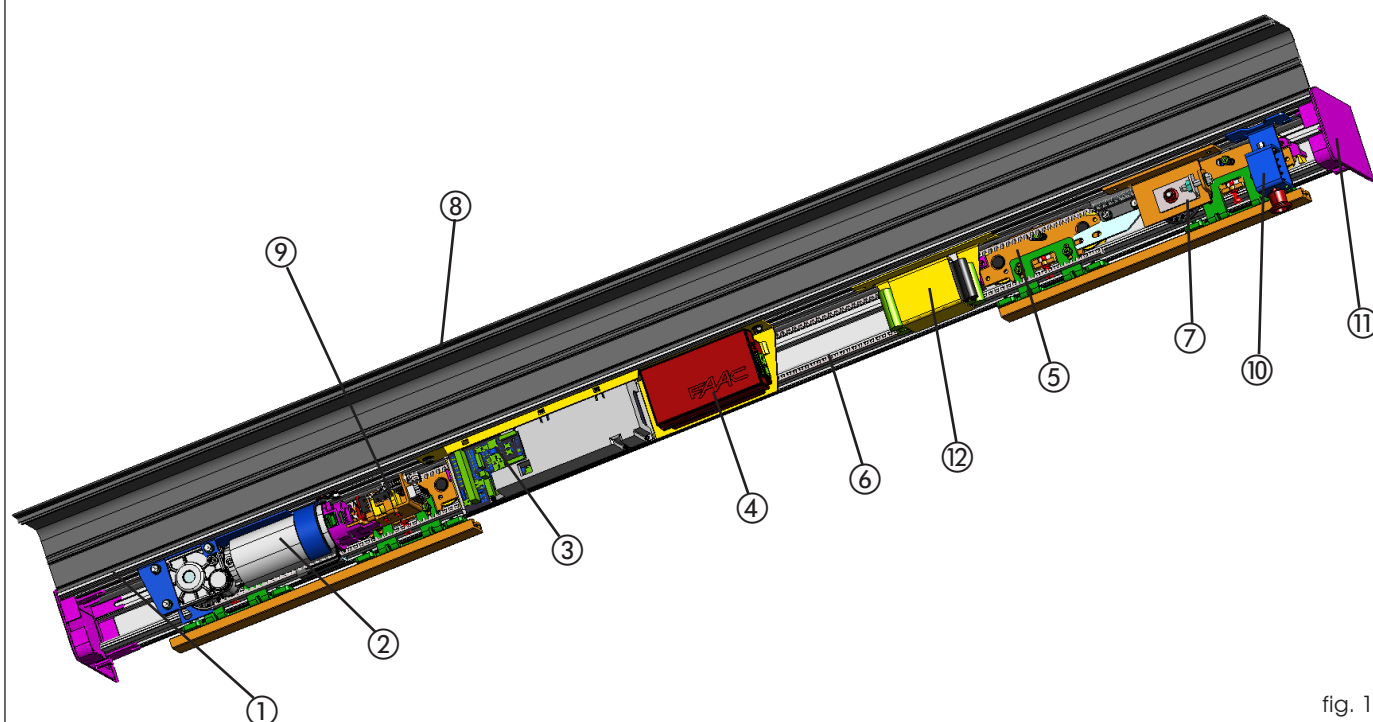

fig. 1
An automation cross beam (fig.1) consists of the following parts:
Support profile (fig.1 ref.①)
Motor unit (fig. 1 ref.②)
Control unit (fig. 1 ref. ③)
Power feed unit (fig. 1 ref. ④)
Leaf support carriages (fig.1 ref.⑤)
Drive belt (fig. 1 ref. ⑥)
Transmission pulley unit (fig. 1 ref. ⑦)
Closing housings (fig. 1 ref. ⑧)
This is the aluminium profile enabling closure of the automated system. The side panels (fig.1 ref.⑪) completely close the system.
Motor lock unit (fig. 1 ref. ⑨)
The motor lock unit is supplied with the internal release device (Fig.1 ref.⑩) used for emergency opening if needed. It is also designed for installation of the external release (optional) if required. The motor lock unit acts directly on the motor, locking it mechanically.
Emergency battery (fig. 1 ref. ⑫)